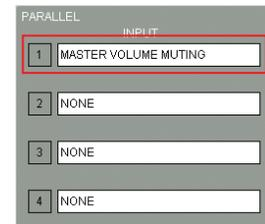

Fig. 2 MASTER VOLUME MUTING Screen
3. Select MASTER VOLUME MUTING on the PARALLEL/PROJECTOR CONTROL screen. This selection appears on a drop-down list on INPUT 1 (Fig. 2).